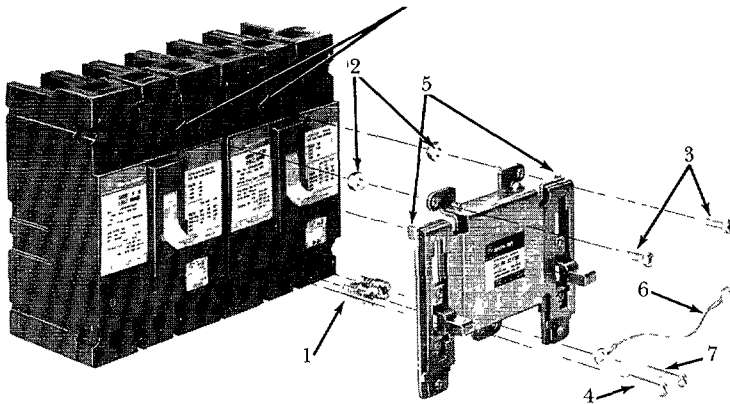
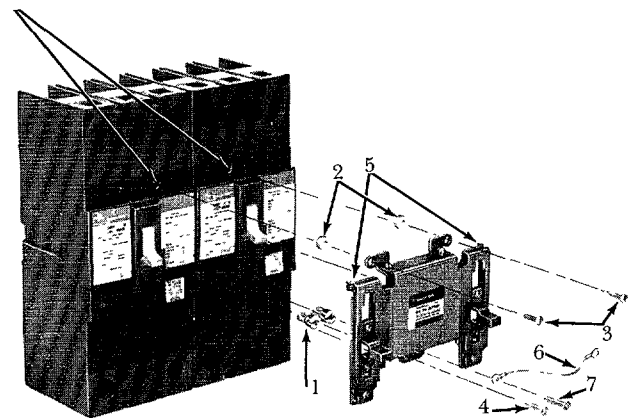
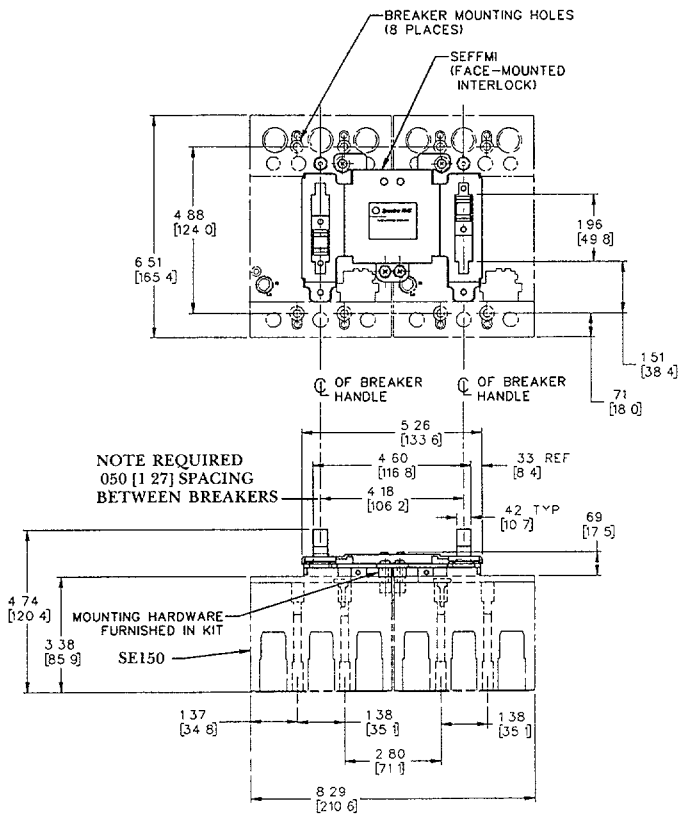
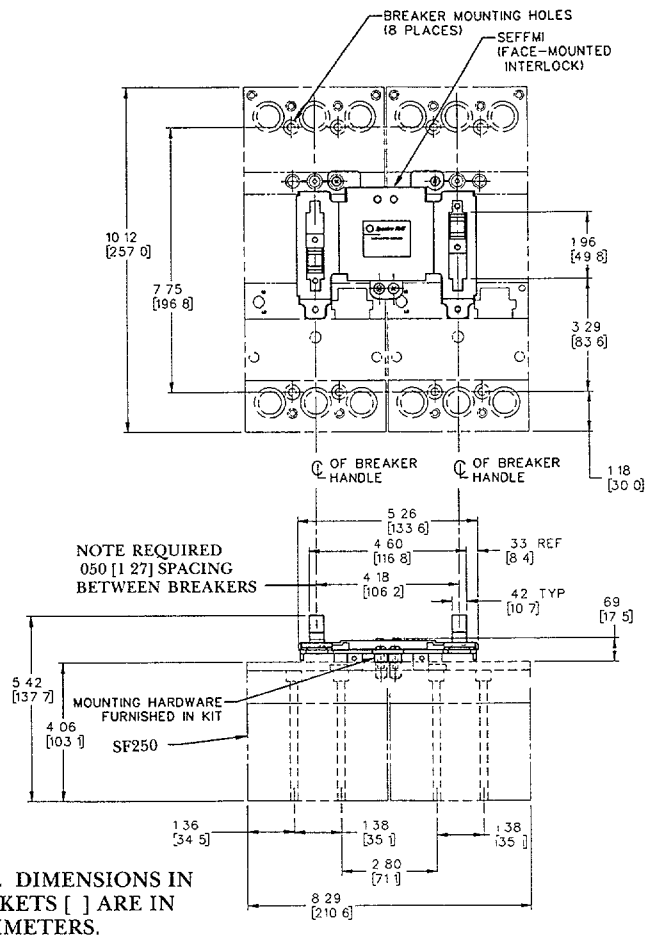

Figure 1. Typical SE150 Breaker Frame
Figure 2. Typical SF250 Breaker Frame
Figure 3. Typical SE150 Frame
Figure 4. Typical SF250 Frame
1. Mount each breaker per Figure 1 and Figure 3 (SE150) or Figure 2 and Figure 4 (SF250).
3. Remove the accessory cover screws—1 per breaker—and discard them (Figures 1 and 2).
4. Thread two spacer inserts (1) and tighten into the breaker cover until the shoulder is seated. DO NOT OVERTIGHTEN (3 in.-lbs. maximum).
6. Place spacers (2) between the interlock and breaker and loosely thread two pan slotted M3.5 (3) screws through the interlock mounting holes and into the accessory cover screw holes of the breaker.
7. Loosely thread one machine screw (4) through an interlock mounting hole and into the spacer insert.
8. Slide the face-mounted interlock downwards until the locating tabs (5) come into contact with each breaker escutcheon. Tighten the two M3.5 pan slotted screws (3) that secure the accessory cover to 8 in.-lbs. and the remaining screw (4) to 12 in.-lbs.
9. Secure the ground wire (6) with a machine screw (7) through the remaining interlock mounting hole and tighten to 12 in.-lbs. maximum.